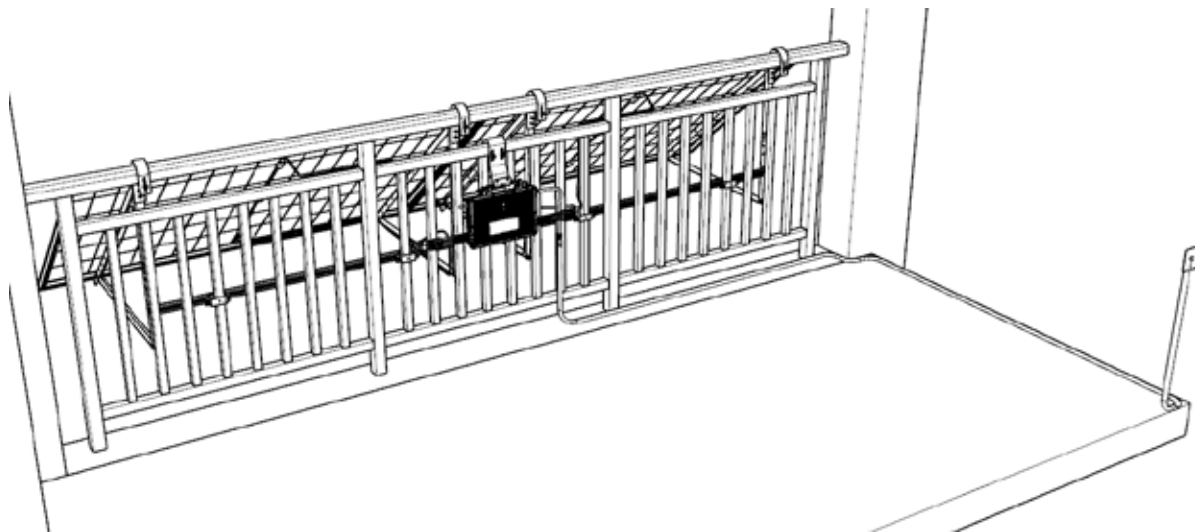

FIGURE 6-2
- ② Connect the micro-inverter AC output directly to the household socket. Installation is complete, as shown in Figure 6-2."